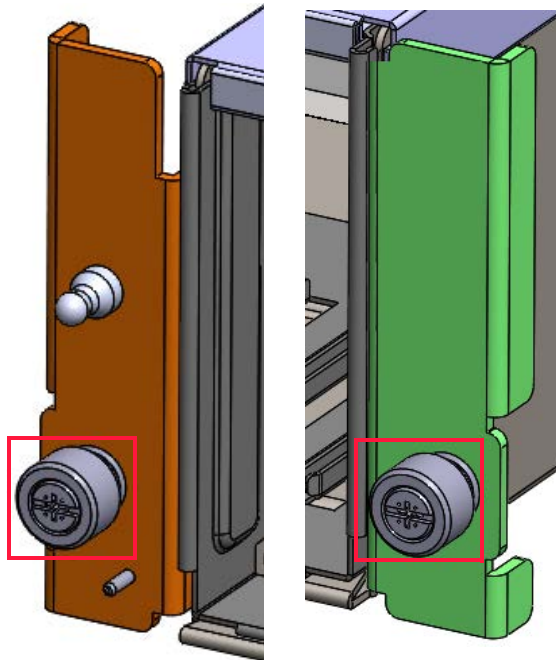

Figure 8.29 Shipping screws
2. Secure the enclosure to the rack. Tighten the left and right shipping screws on each side of the enclosure as demonstrated in Figure 8.29.